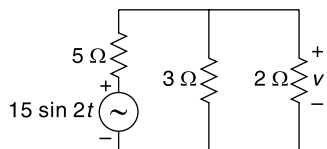

Fig. 14.62
14.77 Determine the value of v in the circuit shown in Fig. 14.62.